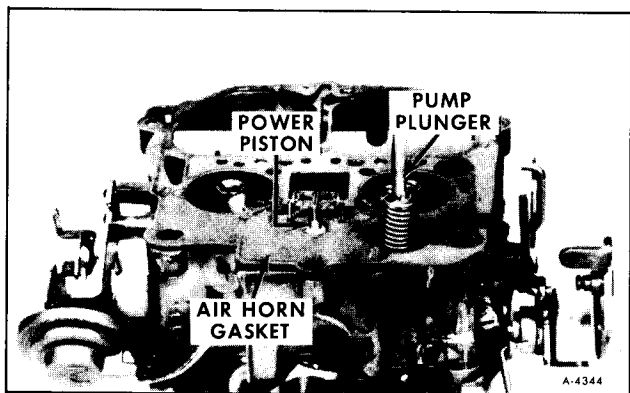

Figure 14—Float Bowl Assembly
1. Remove pump plunger from pump well. See Figure 14.